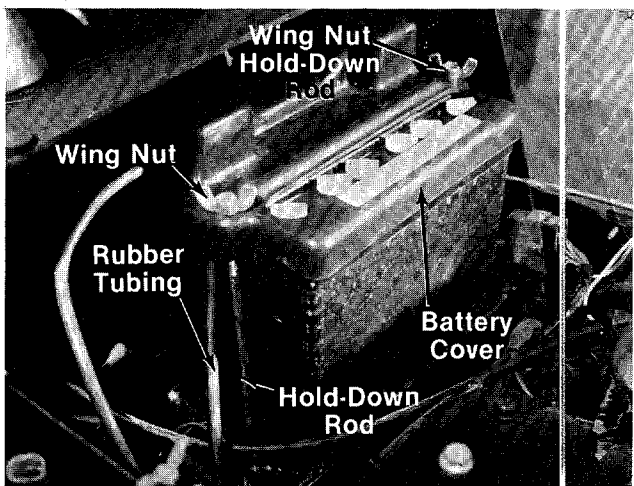

FIGURE 2.
4. Hook the hold-down rods through the holes in the battery case and place the battery cover over the battery and the two hold-down rods. See figure 2. Secure the hold-down with the two wing nuts. Hand tighten only.
5. Insert the end of the rubber tubing (see figure 2) into the plastic drain tube located to the right of the battery.